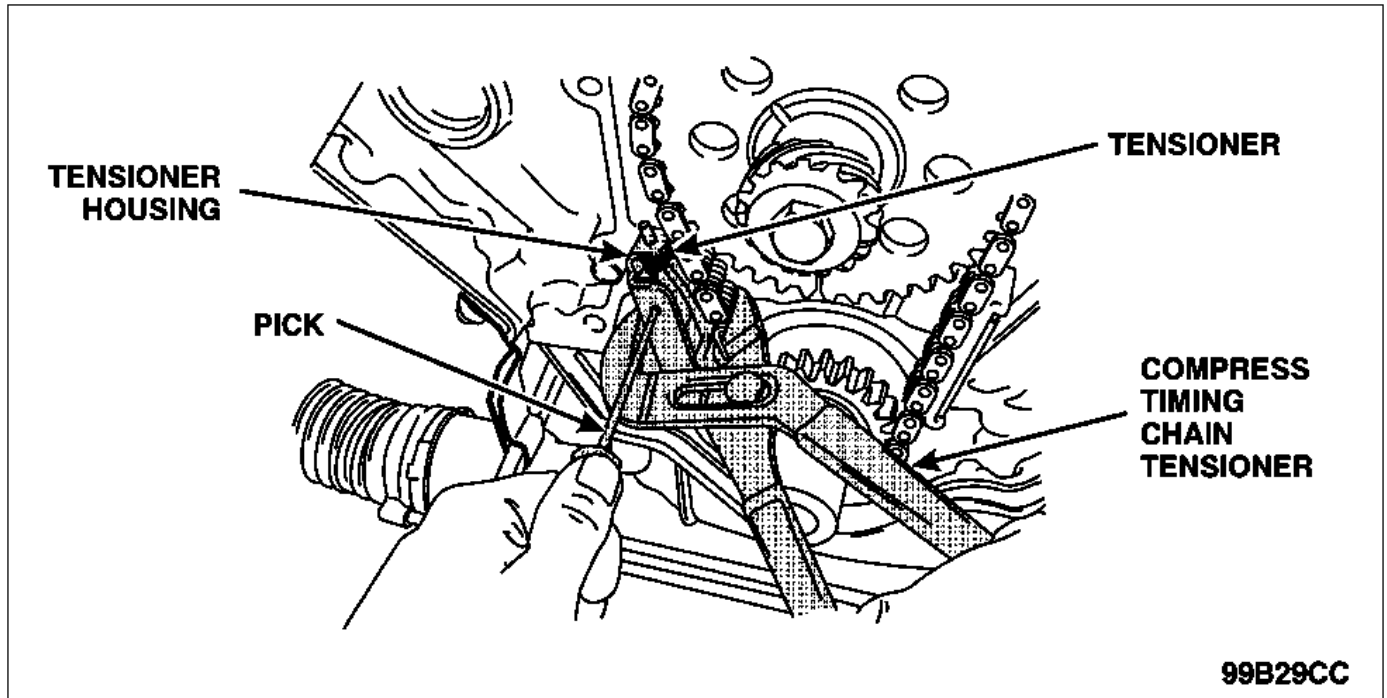

FIGURE 29
- Using pliers, compress the timing chain tensioner. See Figure 29.
- Insert a pick through the tensioner housing and into the tensioner. See Figure 29.